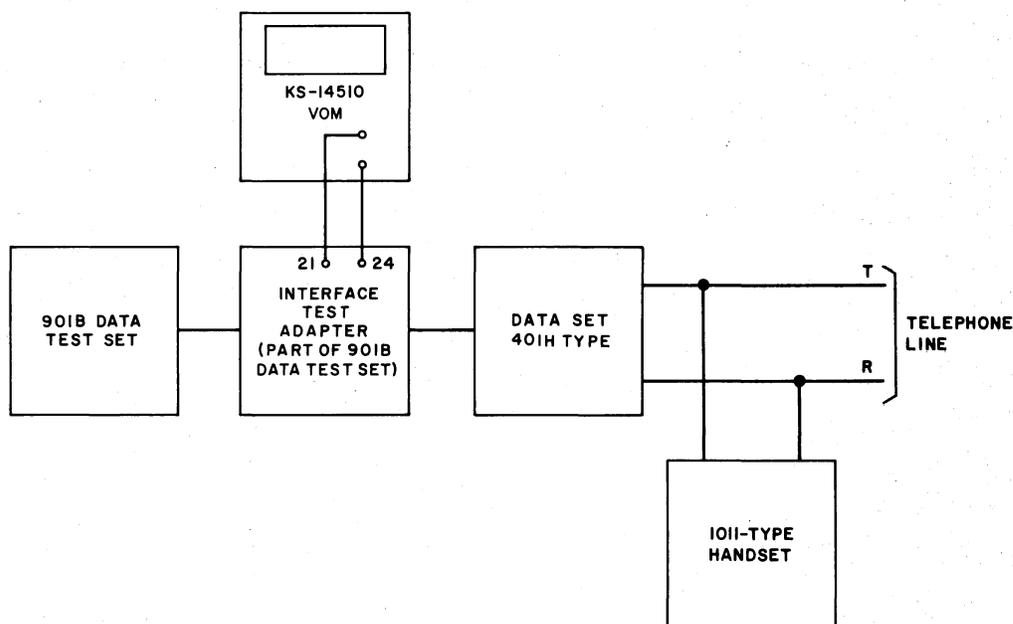

Fig. 1—Typical Test Arrangement
- 2 Connect the 901B DTS to the interface connector of the data set through the interface test adapter (Fig. 1).